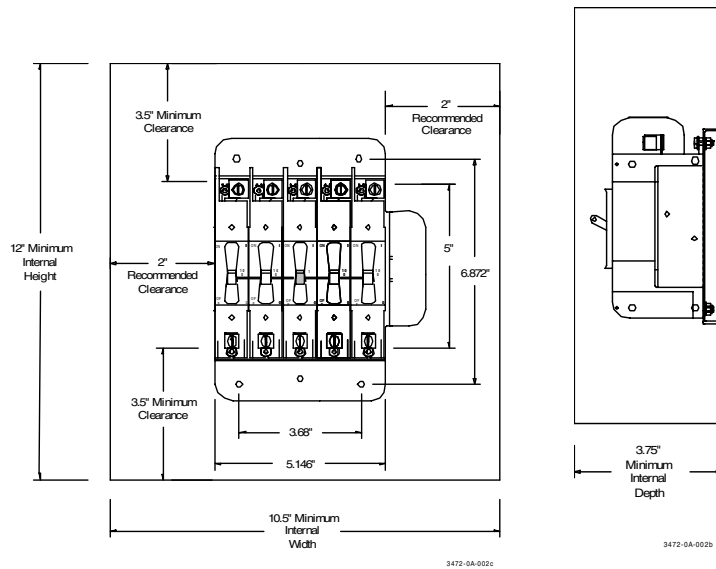

Figure 3
3. Refer to Figure 3 for minimum enclosure dimensions.